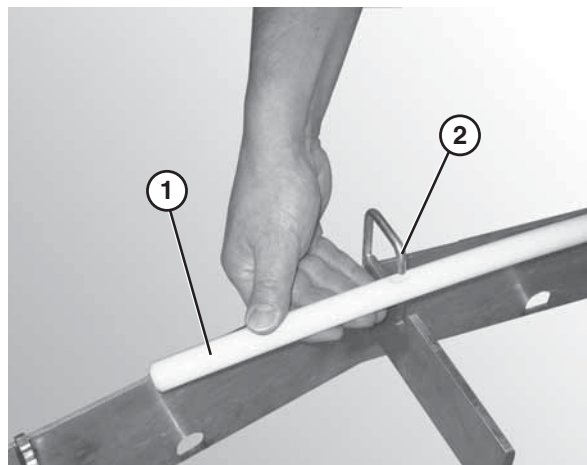

Figure 35
2. Attach the hold down wear strip (Figure 35, item 1) to the frame hooks (Figure 35, item 2) on the outside of the frame.